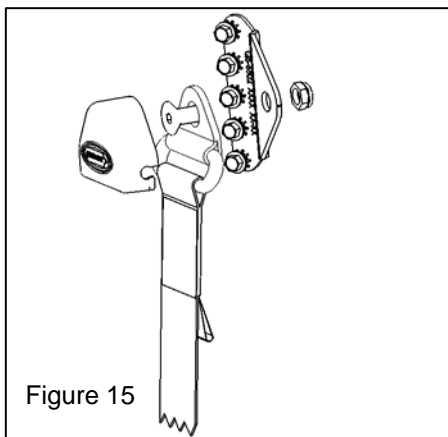

Figure 15
- Do not use the triangle wall bracket (as shown in Figure 15) with Retractable Shoulder Belts
6. Drill five pilot/start holes into the solid frame member of the vehicle wall structure. Replace triangular bracket and secure using the supplied 1/4" (6.5mm) hardware (see Figure 15).